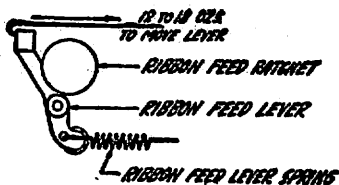

Fig. 28
4.45 Ribbon feed lever spring tension shall be min. 12 ozs., max. 18 ozs. measured as in Fig. 28 after removing ribbon feed pawl spring and placing feed lever roller in plunger indent.